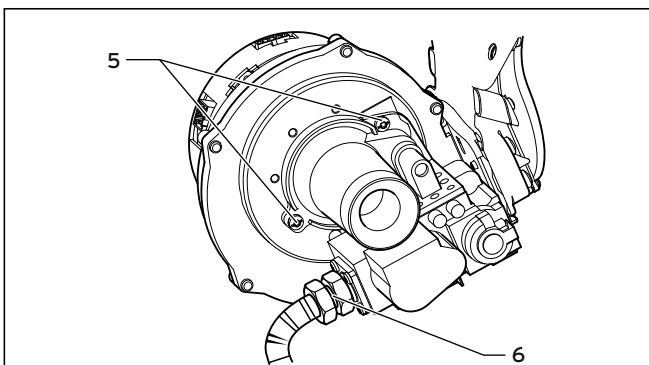

Fig. 10.3 Screwed connection gas valve/fan
- Disconnect the gas supply pipe at the gas valve (6, Fig. 10.3).